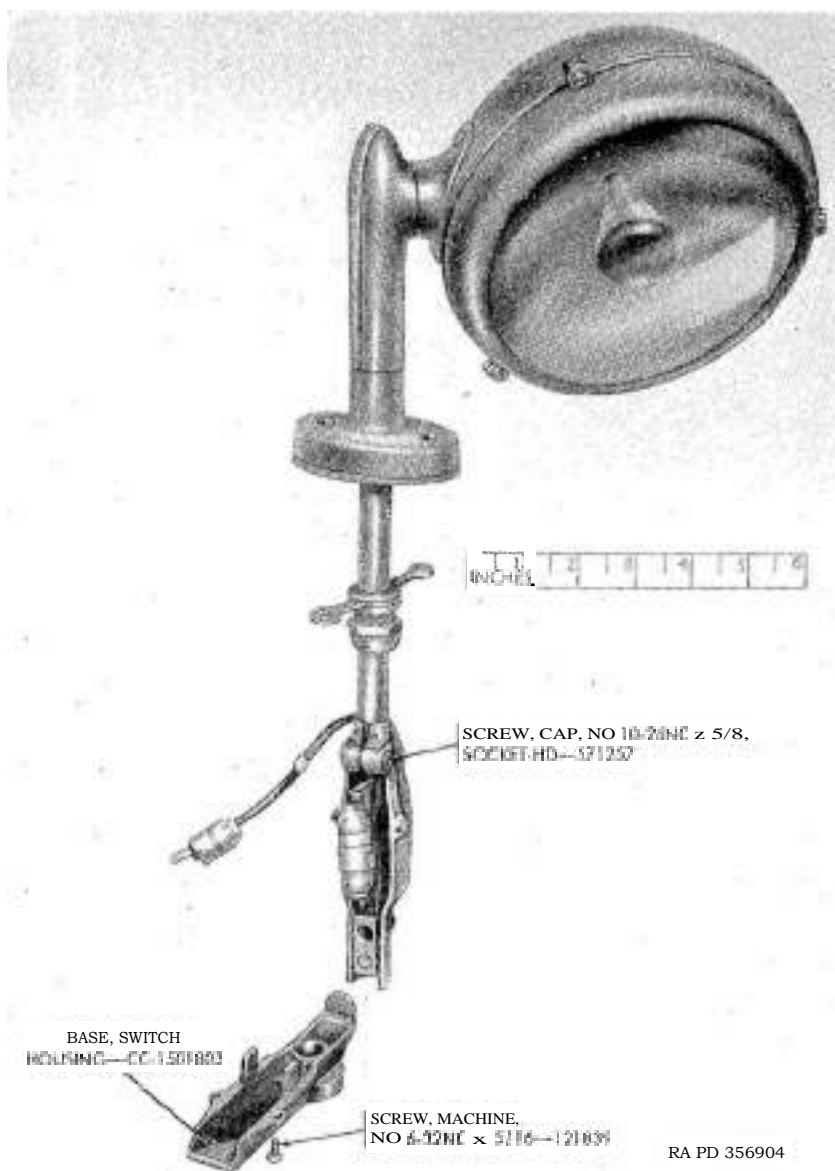

Figure 232. Switch housing base-removed.
- (1) Remove two machine screws (*fig. 232*) ; then remove switch housing base from switch housing assembly.
- (2) Remove socket-head cap screw (*fig. 232*) from switch housing assembly with a *5/32-inch* set screw wrench.
- (1) Inspect switch housing base (*fig. 232*) for cracks or other visual damage. Replace housing base if it is not in good condition.